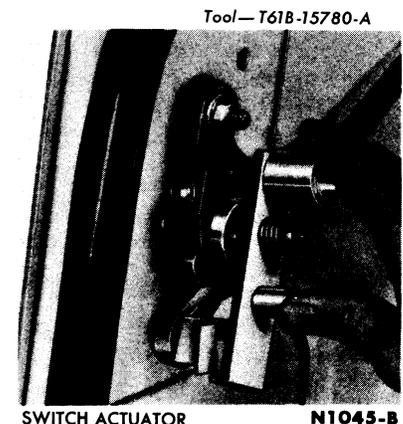

FIG. 29—Deck Lock Actuator Adjustment
1. Use tool T61B-15780-A (Fig. 29).
2. Position the tool over the lock screw (Fig. 29). Press the tool firmly against the lock screw shoulder.